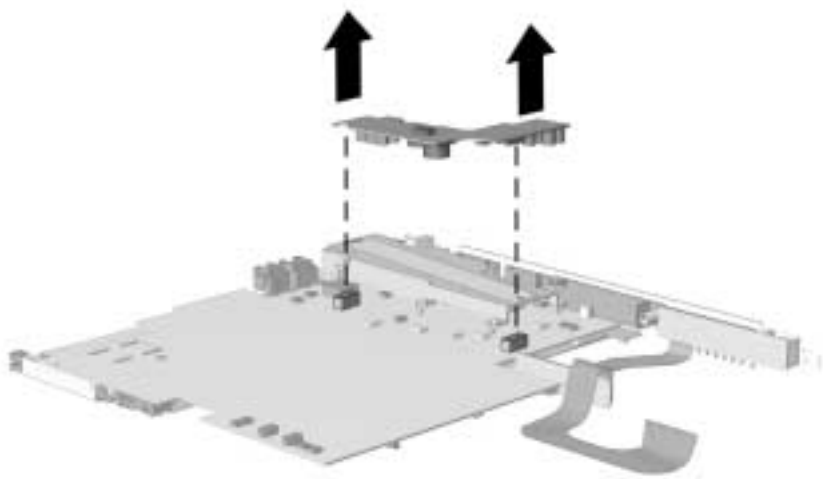

Figure 5-26. *Removing the Voltage Converter Board*
3. Lift the left and right edges of the voltage converter board to disconnect it from the system board (Figure 5-26).